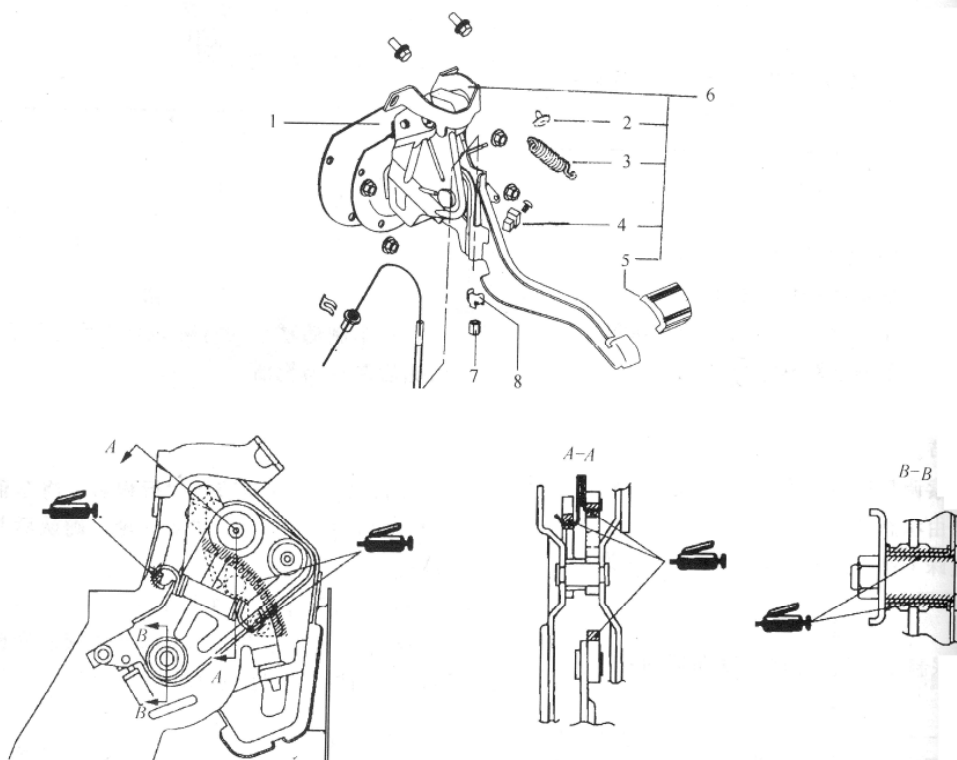

Fig. 16-55
1) Removal and installation (see Fig.16-55)